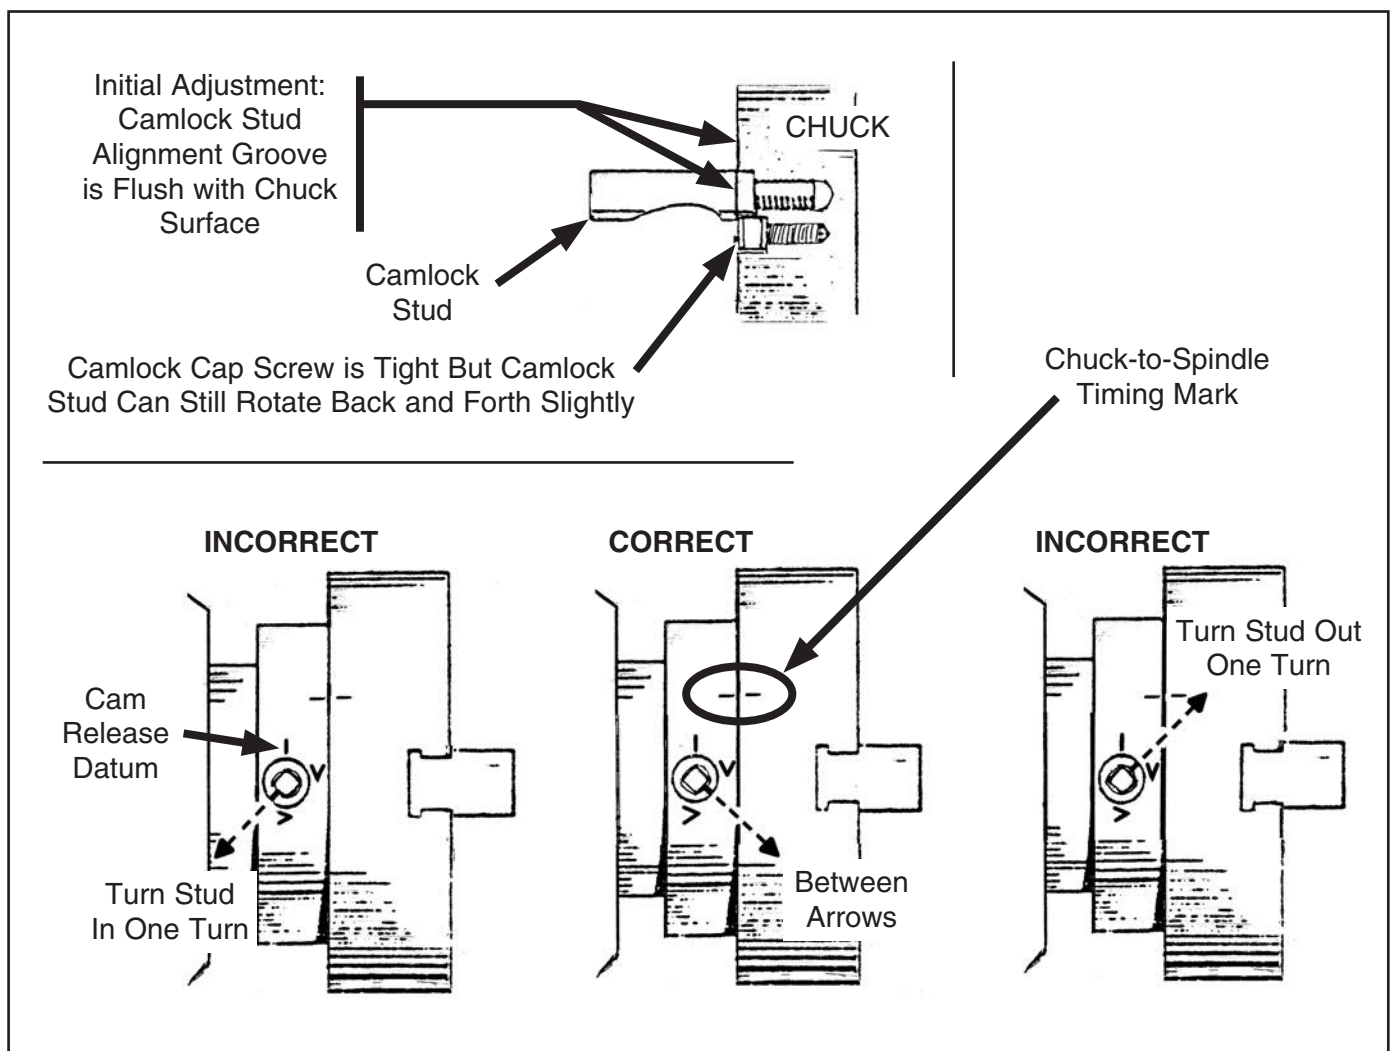

Figure 40. Camlock stud alignment.
6. Align the chuck-to-spindle timing marks (**Figure 40**), and slide the chuck onto the spindle.
In order to properly install or adjust one or more camlock studs, you must remove a stud locking cap screw, then thread the camlock stud in or out until the line on the side of the stud is flush with the top of the chuck casting (**Figure 40**). This is an initial adjustment.
If this is the case, you will have to remove the chuck and fine-tune the camlock stud adjustment. See **Figure 40** for which direction to turn the camlock studs.